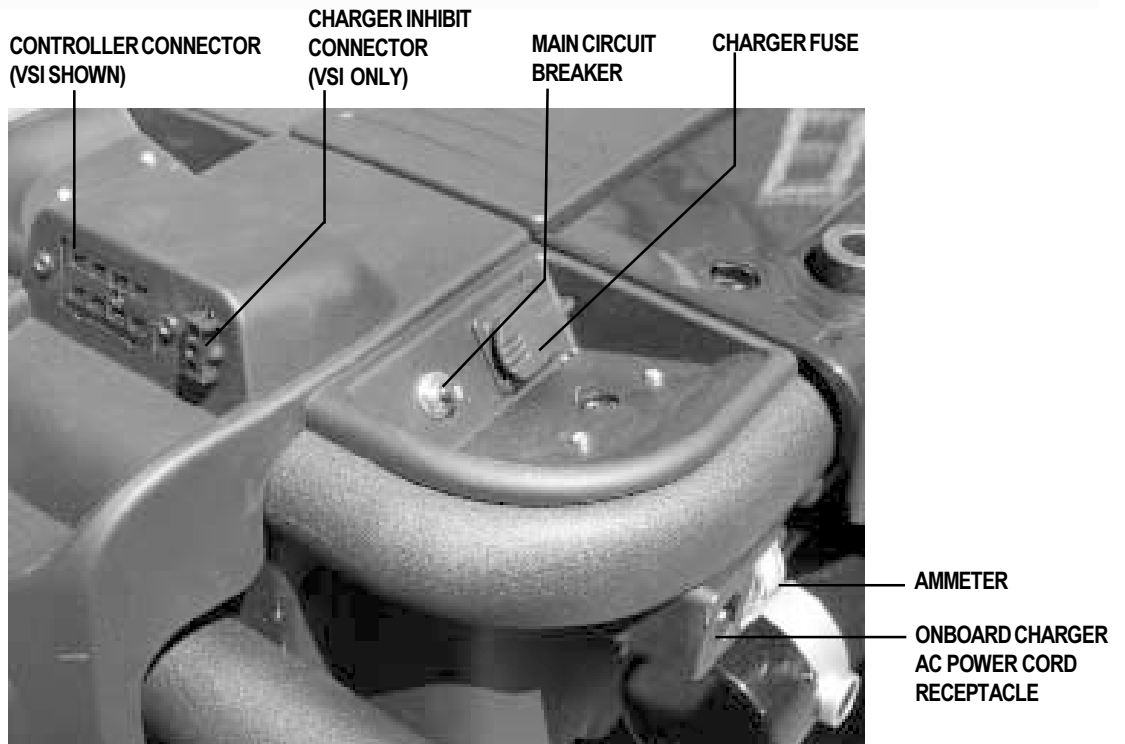

Figure 4. The Jazzy 1101/1121 Electronics Tray
6. Plug the controller cable(s) into the connector on the electronics tray. See figure 4.